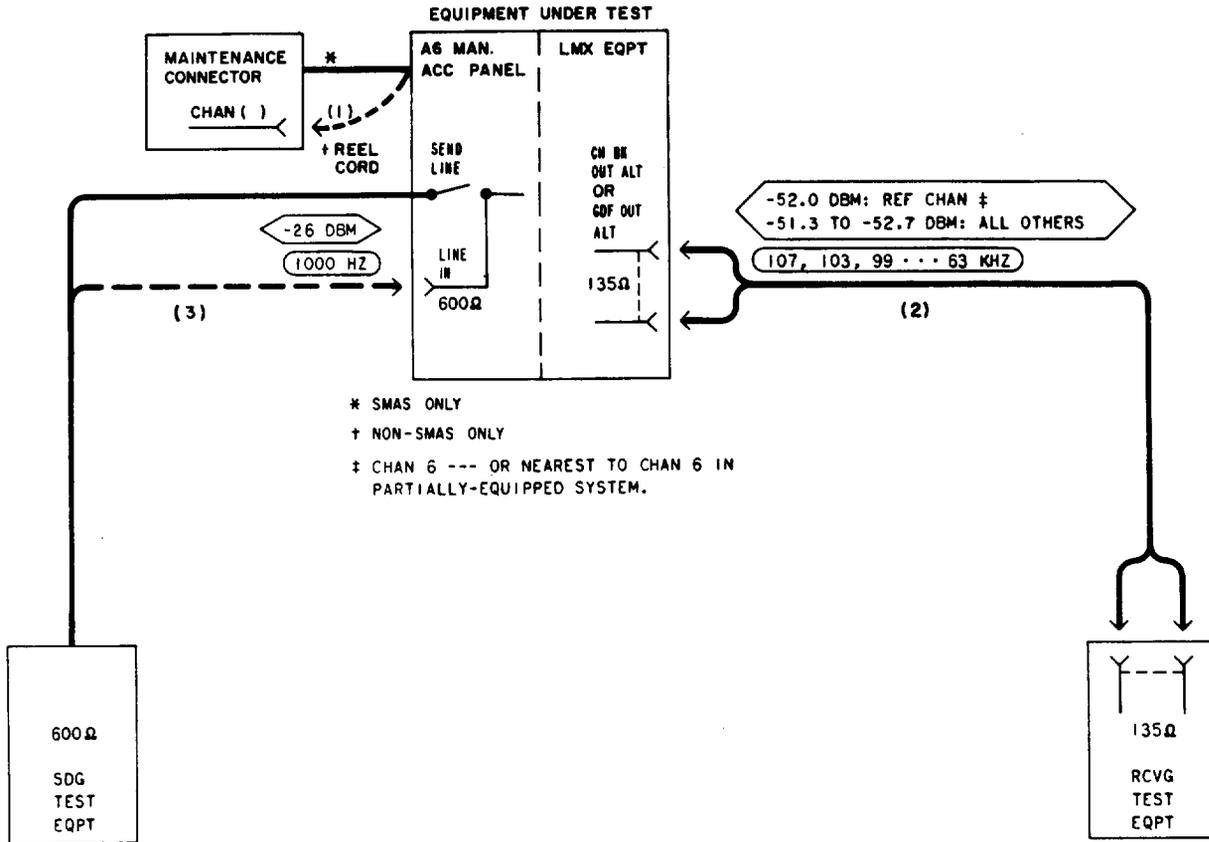

Fig. 3—Patching Diagram—Transmitting Level Adjustment
2b†	Connect the retractable cord (on the 22AU MAP) to the CHAN BANK connector (on the maintenance connector) for Channel 6, or for the channel nearest to Channel 6 in a partially-equipped system [patch (1), Fig. 3].
5	At the LMX equipment, connect the RTE to the CH BK OUT ALT (LMX-2) or GDF OUT ALT (LMX-3) jack [patch (2), Fig. 3].
6	Operate the SEND LINE/DROP switch to the LINE position. Note: If the MDS is not available via the SEND LINE switch, connect the STE to the LINE IN jack [patch (3), Fig. 3].
12b†	Connect the retractable cord (on the 22AU MAP) to the next channel to be tested [patch (1), Fig. 3].
17†	Remove the retractable cord (on the 22AU MAP) from the channel under test [patch (1), Fig. 3].
19	At the LMX equipment, remove patch (2), Fig. 3.
22†	If used, remove patch (3), Fig. 3.